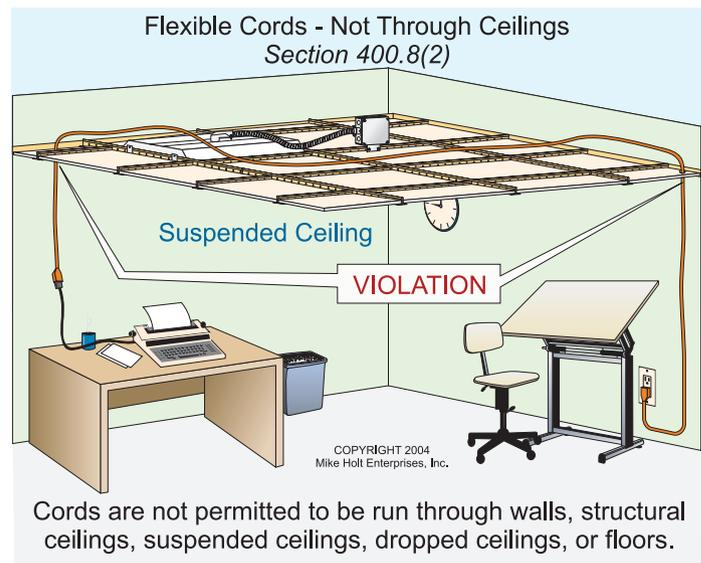

Figure 400-4
(2) Run through holes in walls, structural ceilings, suspended/dropped ceilings, or floors. **Figure 400-4**